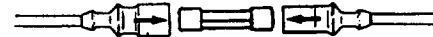

Figure 7
9. Insert fuse into holder and snap halves of housing together (Figure 7).